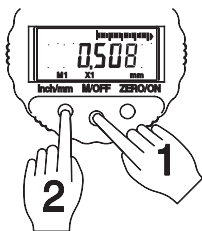

Figure 1 - Entering the Set-Up Mode
- 1) Simultaneously press and hold **M/OFF** (1), then quickly press and release **inch/mm** (2) once to enable the setup mode. (**M1** icon appears in the lower left corner of the LCD) (Figure 1).